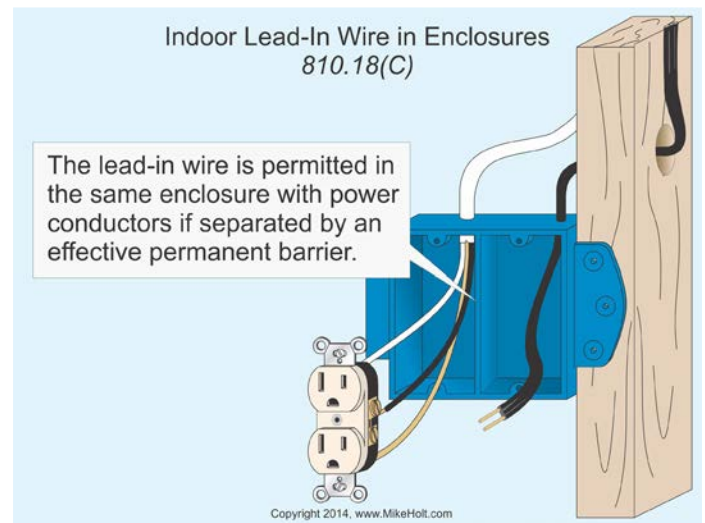

Figure 810-9
(C) Enclosures. Indoor antenna lead-in conductors can be in the same enclosure with electric power conductors where separated by an effective, permanently installed barrier. Figure 810-9